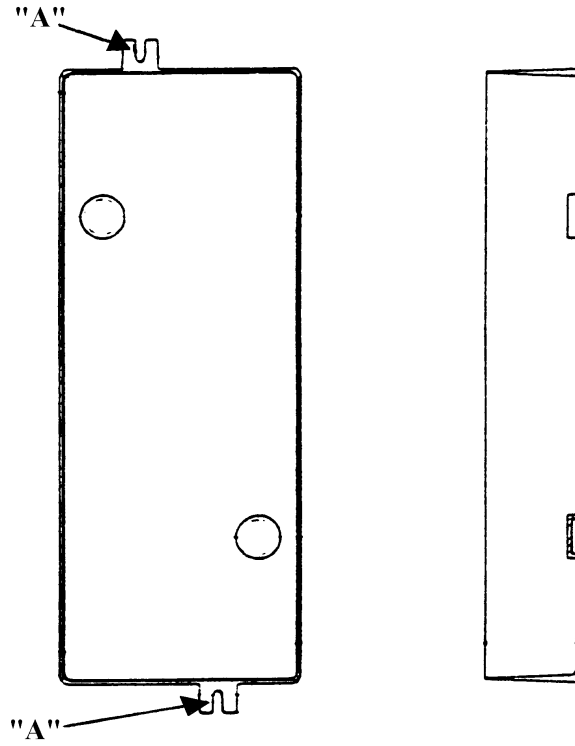
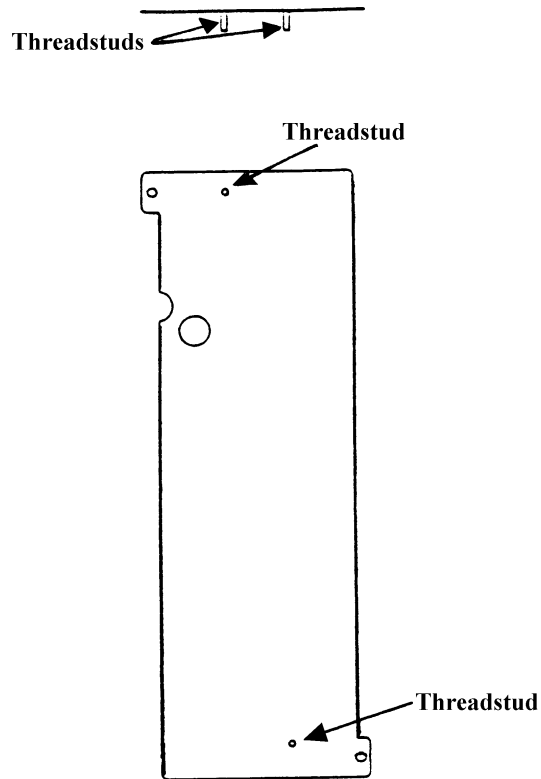

Figure 1
Figure 2
5. Place the plastic drain pan in position. Ensure the securing projection (see "A" fig. 1 on page 3) on the pan fits around the shoulder of the Phil Pan Shoulder Screw.
4. Place the plastic drain pan adapter plate (see fig. 2 on pg. 3). Note: Adapter only fits one way. (See fig. 2 on page 3 for proper positioning.)
5. Secure the adapter plate in position with two (2) Phil Pan Screws with washer (900,301,650.01). Note: Screws are installed in the positions the screws were removed in steps 1 and 3.
6. Place the drain pan in position on the adapter plate. Ensure the securing projections (see "A" fig. 1 on page 3) on the drain pan fit around the threadstuds on the adapter plate.